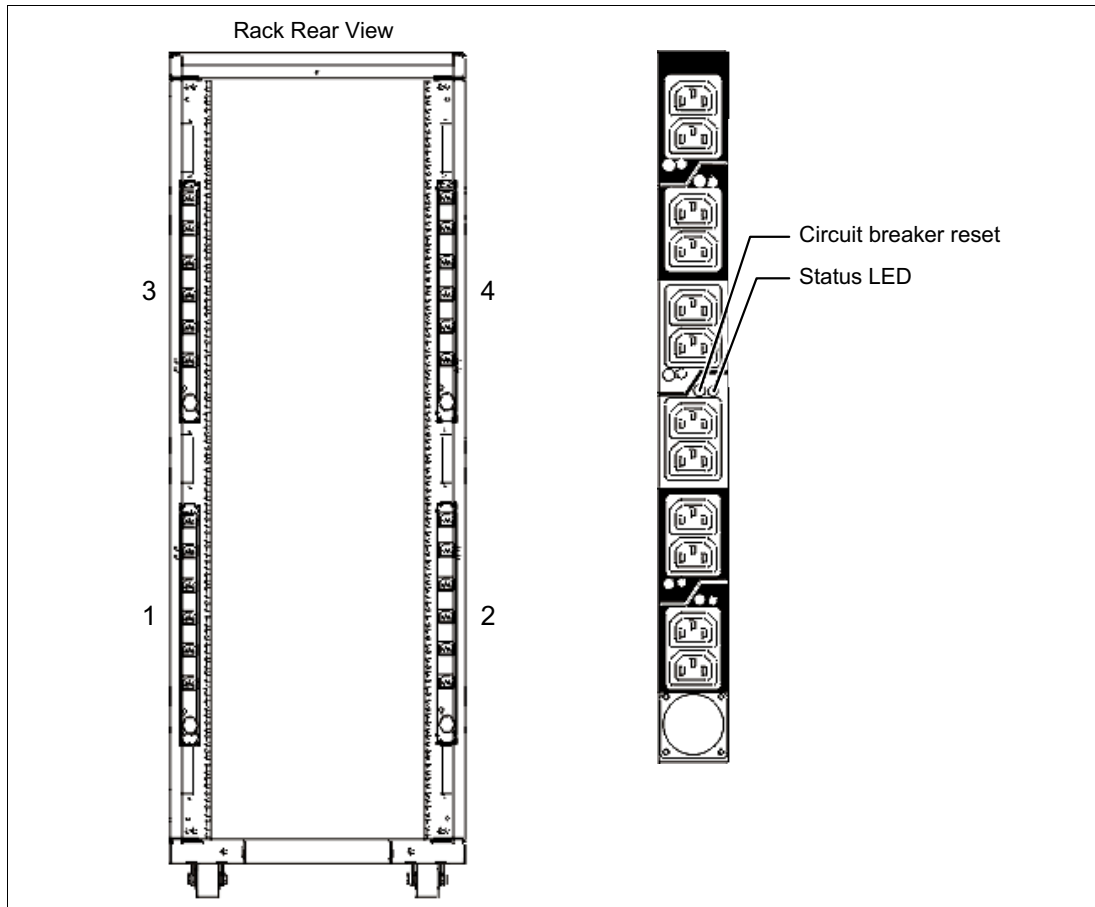

Figure 1-10 PDU placement and PDU view
- ▶ Up to four power distribution units (PDUs) can be mounted in the PDU bays (see Figure 1-10 on page 33), but others can fit inside the rack. For more information, see 1.10.7, “The AC power distribution unit and rack content” on page 33.
Four PDUs can be mounted vertically in the back of the T00 and T42 racks. Figure 1-10 shows the placement of the four vertically mounted PDUs. In the rear of the rack, two additional PDUs can be installed horizontally in the T00 rack and three in the T42 rack. The four vertical mounting locations are filled first in the T00 and T42 racks. Mounting PDUs horizontally consumes 1U per PDU and reduces the space available for other racked components. When mounting PDUs horizontally, the best approach is to use fillers in the EIA units that are occupied by these PDUs to facilitate proper air-flow and ventilation in the rack.